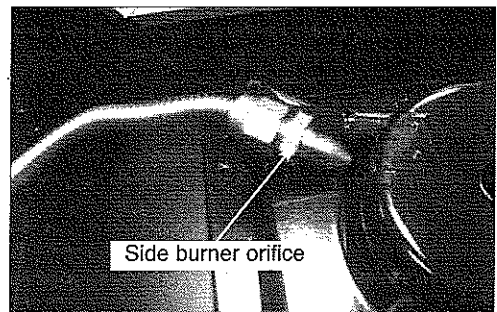

Fig 18
24. Use a wrench to remove the side burner orifice from the flex line and replace it with the NG orifice provided in in the conversion kit. (See Fig. 18)